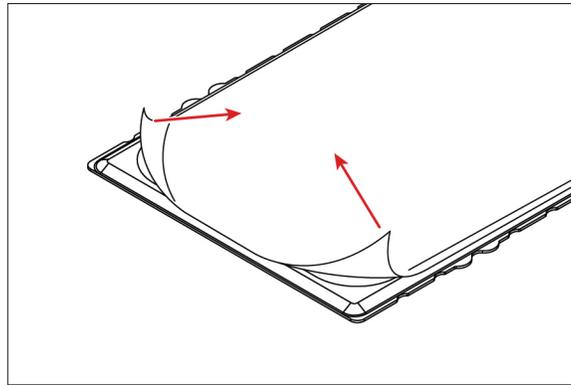

Fig. 2
2. Turn the AirShuttle over. Starting at the corners near the air inlet, peel back the air bearing from the front edge and approximately ten inches along each side of the AirShuttle by disengaging the hook and loop connection (Fig. 2).